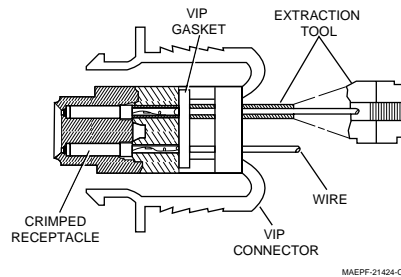

Figure 18 VIP Connector Detail
2. Connect male-pin control leads (wires) to the VIP connector in the appropriate location (see Output/Input Connections tables above). Figure 18 shows how wires are plugged into the connector and how to use an extraction tool to remove wires.